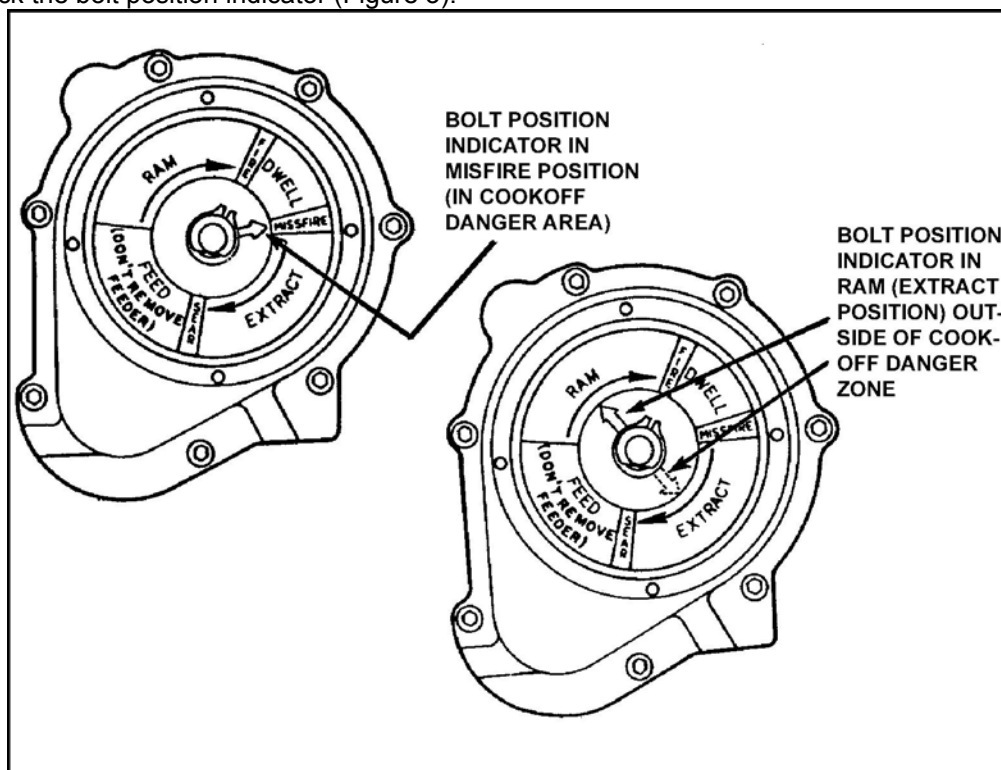

Figure 3. Bolt position indicator.
8. Check the bolt position indicator (Figure 3).